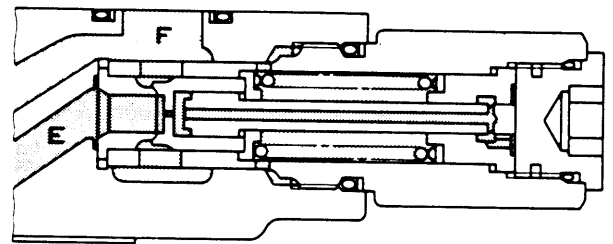

Fig.5
- When stopping travel (or when traveling downhill), chamber **E** in the outlet port circuit is closed by the check valve of the counterbalance valve, but the pressure at the outlet port rises because of inertia. (Fig. 5)